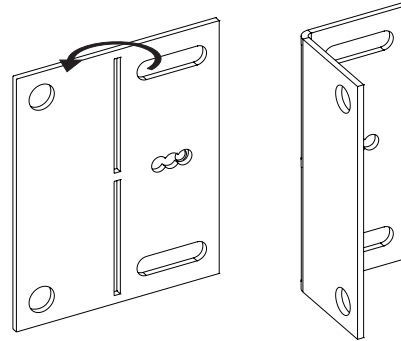

Figure 15
7. Bend the nailing flanges 90 degrees as shown in **Figure 15.**